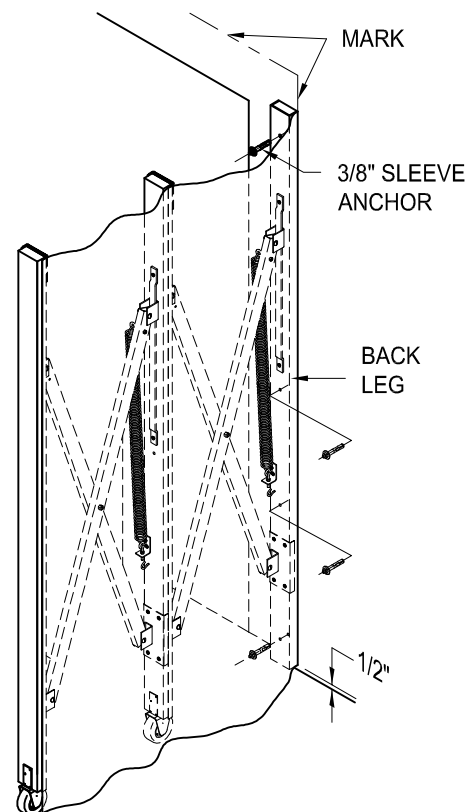

FIG. 3
- * Position vertical frames on wall so that the outside edge of the back leg is flush with the vertical lines from fig. 3.
- * Insert 3/8" sleeve anchors and tighten with 1/2" socket wrench (fig. 3).